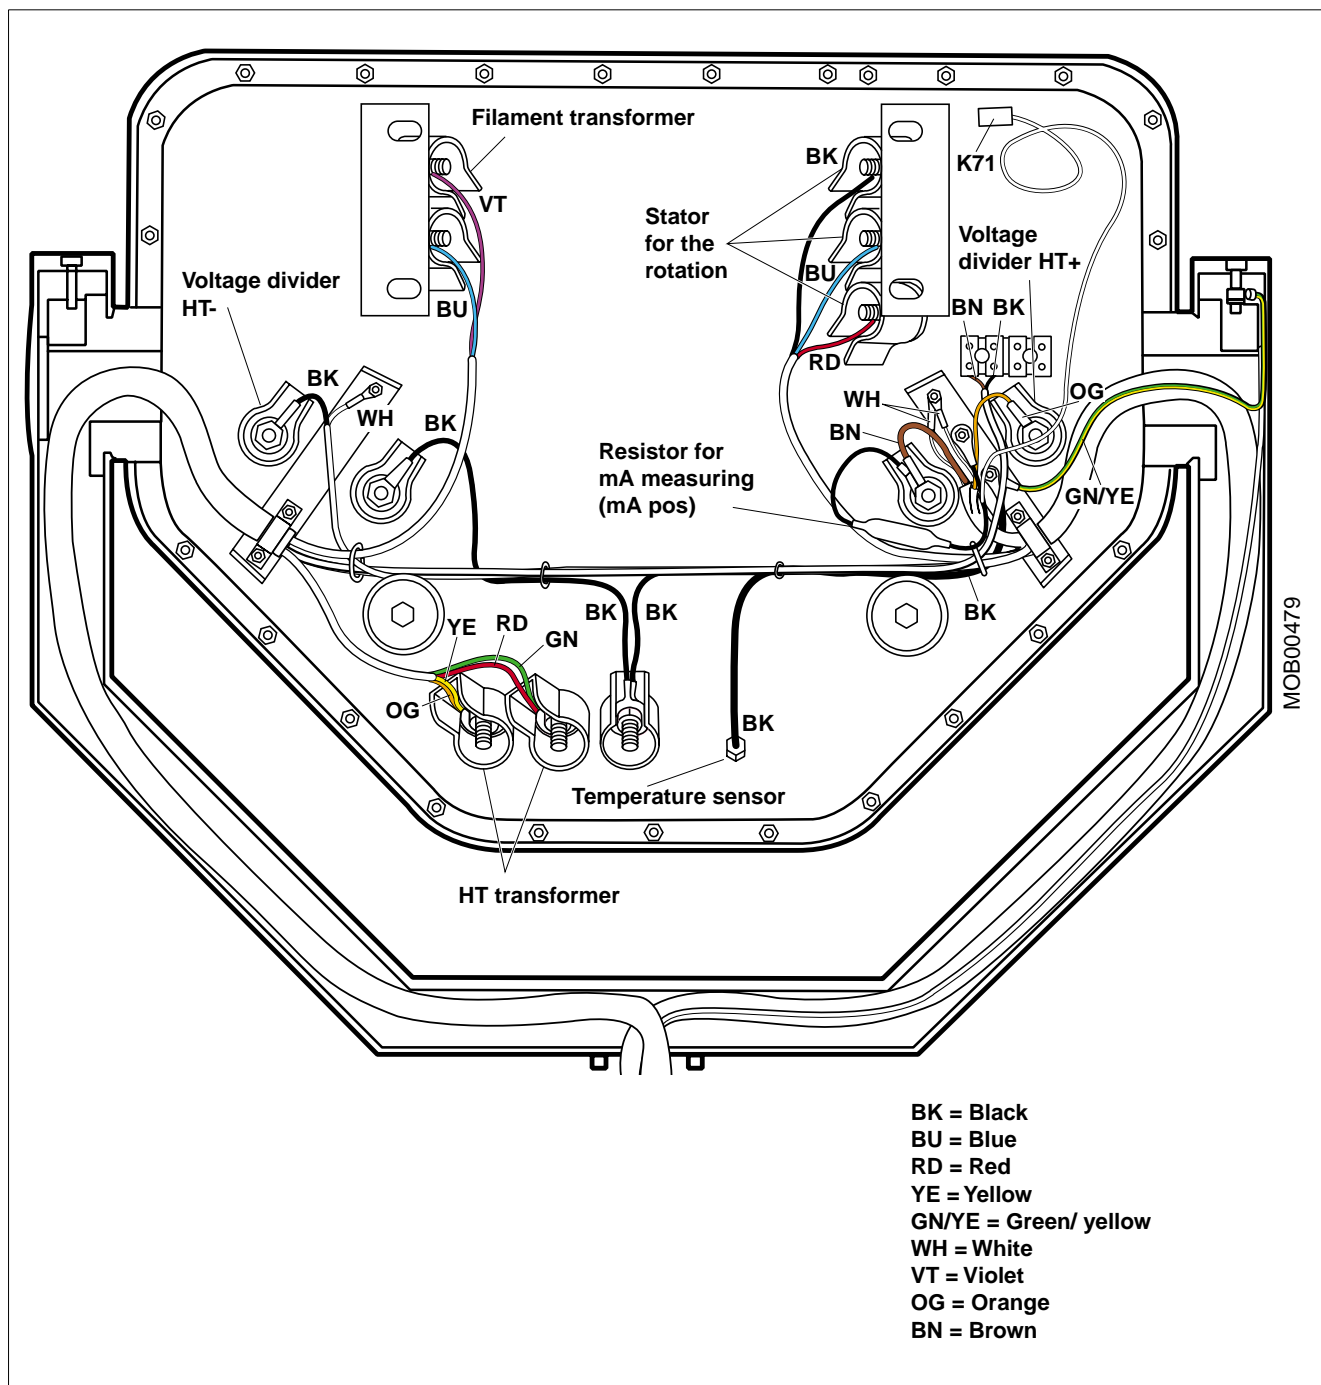

Fig. 20
- Reconnect all electrical connections according to (Fig. 20).